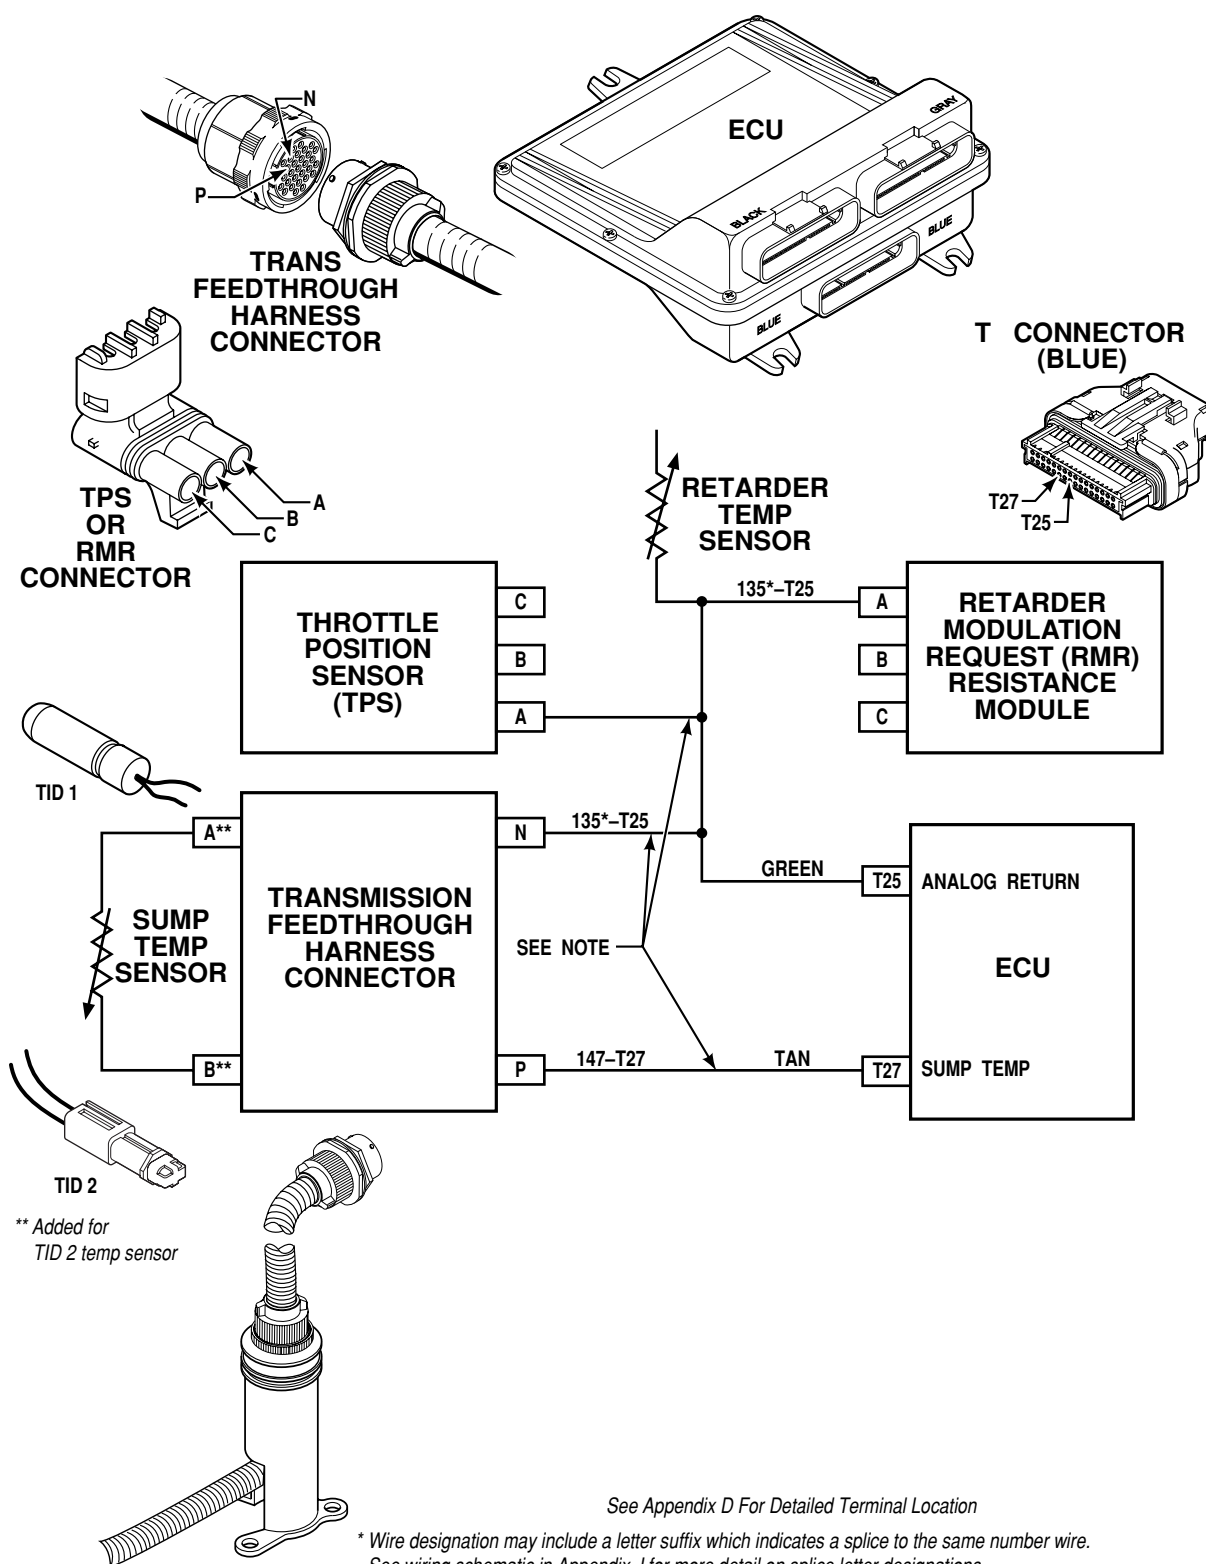

Figure 6–11. Code 33 Schematic Drawing
**CODE 32 XX—C3 PRESSURE SWITCH** (Figure 6–10)